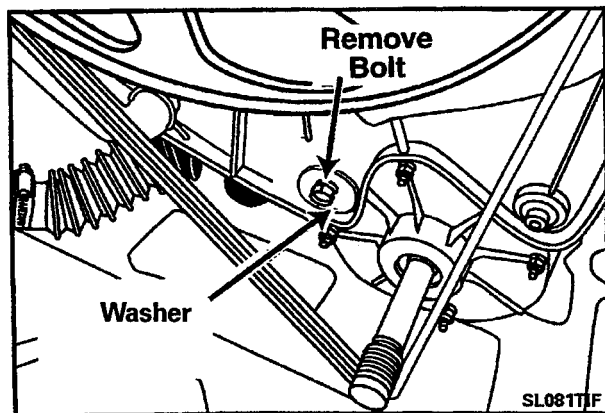

Figure 2-58
3. From the rear, locate and remove the motor mounting bolt securing the washer to the outer tub (*Figure 2-58*).